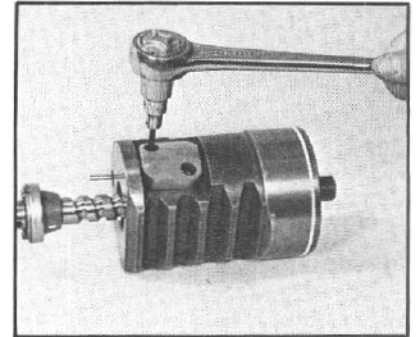
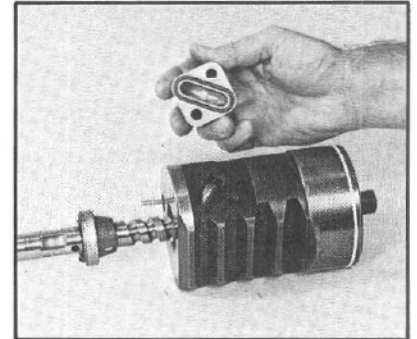

Figure 65
Figure 66
32. If the rack is equipped with the ball return guide cap (48), instead of the clip, remove the two allen head bolts (49) (FIG. 65). Remove the ball return guide cap and the ball return cap seal (47) (FIG. 66).